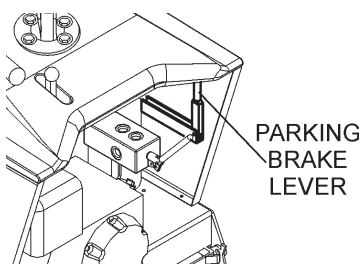

Figure 16. Parking Brake Lever
2. Engage the **parking brake** (Figure 16).
1. Engage the **parking brake lever** (Figure 16) and attempt to rock the buggy back and forth.